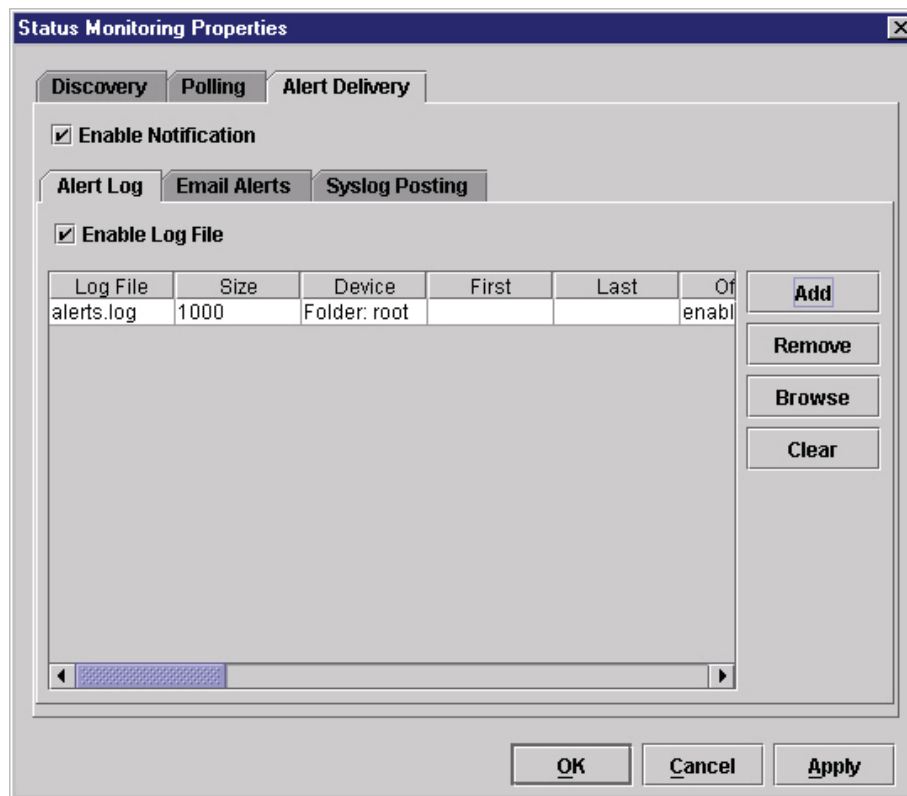

Figure 33 Status Monitoring Properties: Alert Delivery Tab – Alert Log Sub-Tab
1. **Alert Log:** Allows PNE Auto ID to log alerts to a file located in the PNE Auto ID installation directory. To log alerts, check the **Enable Log File** check box, then click **Add** (see Figure 33). A task item adds to the log list. In the task item, specify the following as applicable, then click **Apply** or **OK**.